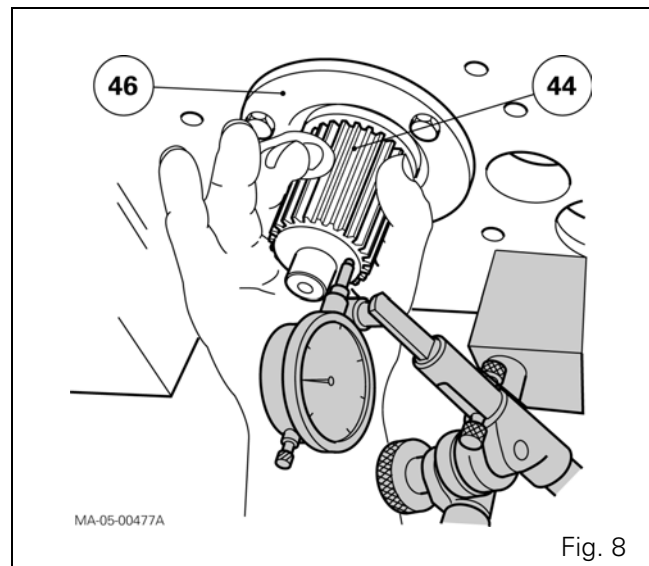
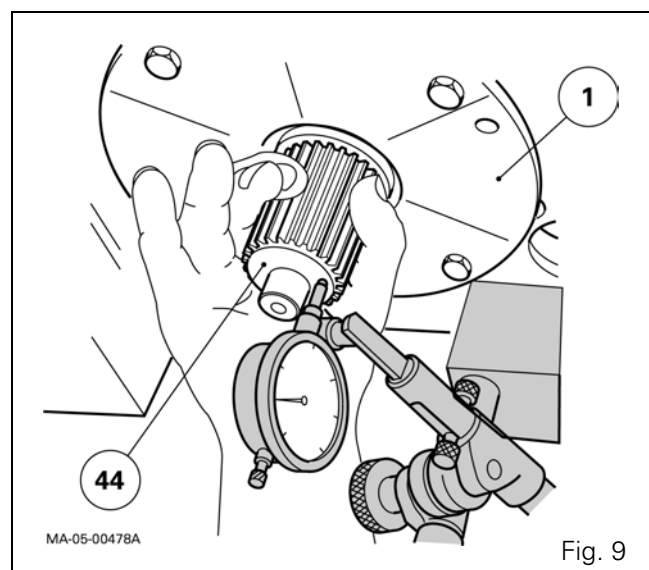

Fig. 8
Fig. 9
28. Fit cup (48) and stop plate (46). Tighten screws (41) to a torque of 25 - 35 Nm.
IMPORTANT: For gearboxes fitted with creeper unit, use unit plate (1) (Fig. 9) to replace stop plate (46) (Fig. 8). Tighten the screws to a torque of 33.8 - 51.5 Nm.
29. Put the feeler pin of a dial gauge against the end of shaft (44) (Fig. 8 or Fig. 9).
33. If the axial freeplay is greater than 0.05 mm, set a definitive thickness of circlips (49), qui to be fitted later at operation 42, to obtain $J3 = -0.05 \text{ to } +0.05 \text{ mm}$.
34. Take off circlip (45).
35. Remove laminated shim (43) and shims (42).
36. Remove screws (41) and stop plate (46).
- the cup (48);
- the bearing cones (40) (39), pairing them with their cups;
42. Fit the circlip (49) defined at the operation 33. Slide the cones and cups paired during operation 37 onto the shaft.
43. Install stop plate (46). Tighten screws (41) to a torque of 25 - 35 Nm.
44. Put the feeler pin of a dial gauge against the end of shaft (44) (Fig. 8 or Fig. 9).